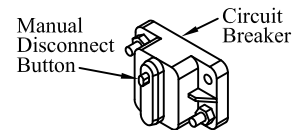

Figure 3: Circuit breaker.
14. **DISCONNECT** the 4ga power cable from the battery, or manually **TRIP** the circuit breaker (Figure 3).
6. **DISCONNECT** the 4ga power cable from the battery, or manually **TRIP** the circuit breaker (Figure 3).